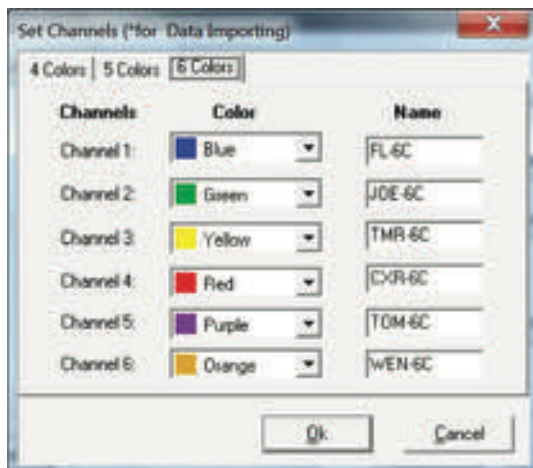

Figure 22. The GeneMarker® HID dye channels.
- The first time that you use the PowerPlex® Fusion 6C System with the GeneMarker® HID software you will need to set the dye channels. To do so, click the Channels button in the bottom left of the Data Files window, and then select the 6 Colors tab. Set the dye channels as shown in Figure 22.